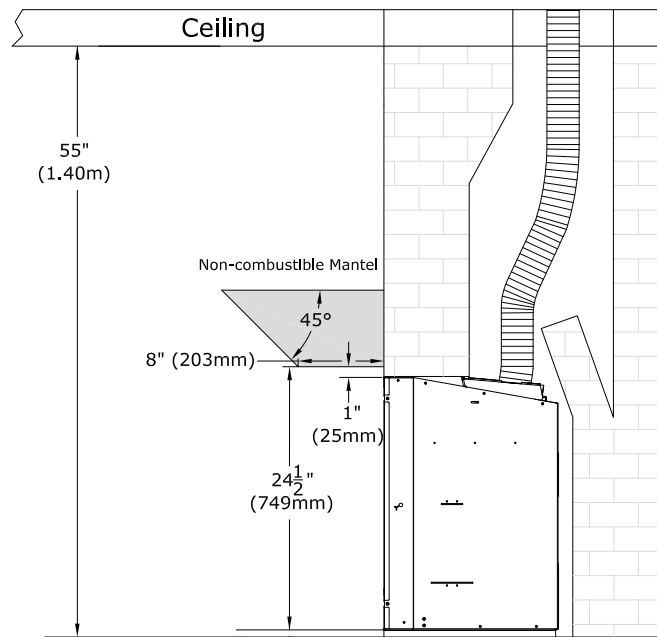

Figure 8.4 - Mantel Requirements
- Combustible Mantel Projections: As referenced in Figure 8.4, a 9" (229mm) mantel can start at 10" (254mm) above the top of the appliance. Mantel projections can increase 1" (25mm) of depth for every 1" (25mm) of height starting at the 9" (229mm) mantel.
- Non-combustible Mantel Projections: As referenced in Figure 8.4 a minimum vertical clearance of 1" (25mm) is required above the top of the appliance for a non-combustible mantel having a maximum depth of 8" (203mm). Mantel projections can increase 1" (25mm) of depth for every 1" (25mm) of height.